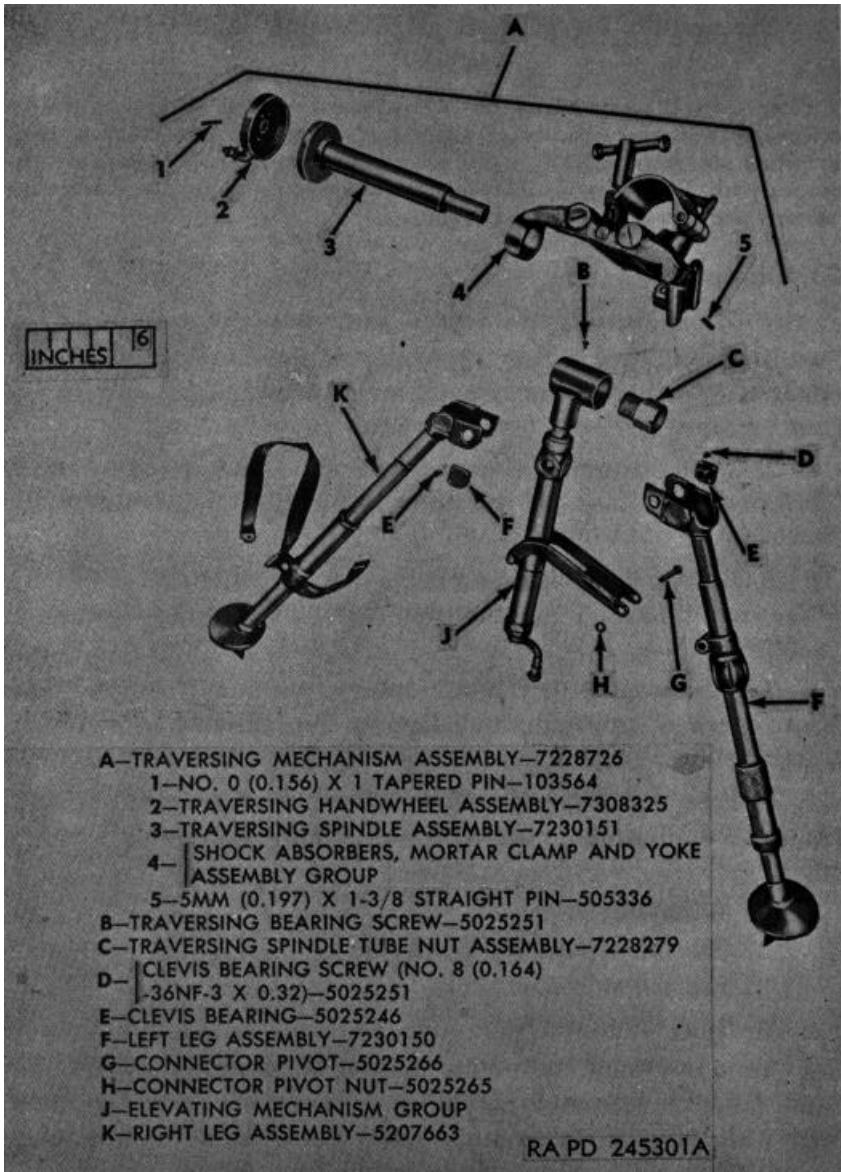
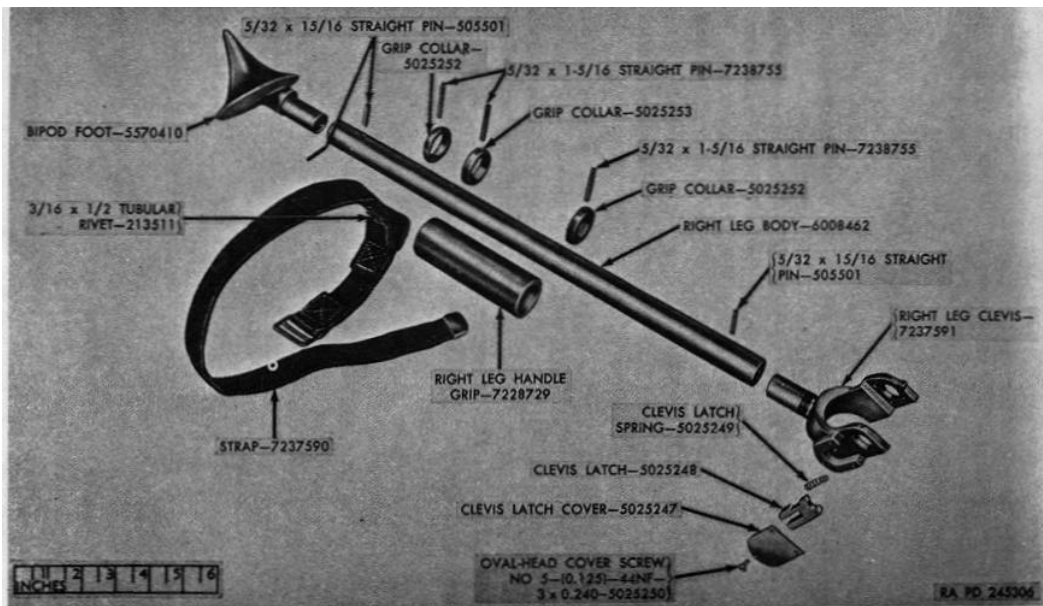

Figure 16. 60-mm mortar mount M5-exploded view.
Figure 20. Right leg assembly 5207663-exploded view.
**Note.** The key letters shown below in parentheses refer to figure 16.
**The key letters shown in a and b below in parentheses refer to figure 16.**
*a.* To separate right and left leg from elevating mechanism group, remove pin from threaded end of connector pivot (G), unscrew connector pivot nut (H), and remove connector pivot. Unscrew the six clevis bearing screws (D) and pry out the two clevis bearings (E). Mark to facilitate assembly.
*b.* Remove both leg assemblies (F and K) from elevating mechanism group (J) by pulling apart.
*c.* To disassemble right leg assembly (fig. 20), proceed as outlined in (1) through (7) below.
- (1) Drive out straight pin that passes through right leg clevis and leg body. Unscrew right leg clevis, marking beforehand to facilitate assembly.
- (2) Unscrew the three oval-head cover screws and remove clevis latch cover.
- (3) Lift out clevis latch and clevis latch spring. The latch must be lifted straight up because its lateral movement is limited by a pin. The latch spring is slightly compressed when assembled and care must be exercised to prevent the spring from jumping out.
- (4) Remove bipod foot by driving out the two straight pins, heat to unsolder, and drive off.
*e.* With the exception of the left and right leg bodies, all parts of the leg group shown in figures 20 and 21 are replaced by field maintenance, if cracked, broken, or otherwise unserviceable. If a leg body is unserviceable, the whole leg assembly is replaced by depot maintenance.
- (2) Thread leg adjusting nut (A) (short thread leading) on left leg body as far as it will go, screw adjusting nut ring (V) on leg adjusting nut until holes aline and lock with oval-head screw (No. 8 (0.164)-36NF-3 x 0.21) (F).
- (3) Install adjusting nut spring washer (B), adjusting nut spring (C), and other nut spring washer (D) on left leg body.
- (4) Install sliding sleeve (E) (flange leading) on left leg body.
- (5) Slide adjusting nut locking ring (G) over sliding sleeve (E), screw it on leg adjusting nut (A) until holes aline, and lock with oval-head screw (No. 8 (0.164)-36NF-3 x 0.21) (F).
- (6) Slide locking sleeve (H) (smooth end leading) over sliding sleeve (E) and screw sliding bracket (S) into the locking sleeve.
- (7) Install clevis latch (L) and clevis latch spring (M), making certain clevis is held in place by 1/16 x 5/16 straight pin (N) in clevis.
- (8) Install clevis latch cover (K) and secure with three latch cover screws (oval-hd No. 5 (0.125)-44NF-3 x 0.240) (J).
- (9) Screw left leg clevis (P) into left leg body (U) until holes aline and drive in 5/32 x 15/16 straight pin (T).
*b.* To assemble right leg assembly (fig. 20), proceed as outlined in (1) through (8) below.
- (1) If bipod foot has been removed, install bipod foot in end of right leg body and secure with two new 5/32 x 15/16 straight pins.
- (2) Install lower grip collar and drive in 5/32 x 15/16 straight pin.
- (3) Install right leg strap on right leg body.
- (4) Install center grip collar on right leg body, drive in the 5/32 x 15/16 straight pin, and slide on right leg handle grip.
- (5) Install upper grip collar and drive in the 5/32 x 15/16 straight pin.
- (6) Install clevis latch and clevis latch spring, making certain clevis is held in place by straight pin in clevis.
- (7) Install clevis latch cover and secure with three oval-head cover screws (No. 5 (0.125)-44NF-3 x 0.240).
- (8) Screw right leg clevis into right leg body until holes aline and drive in 5/32 x 15/16 straight pin.
- c. To assemble leg group, proceed as outlined in (1) through (4) below.